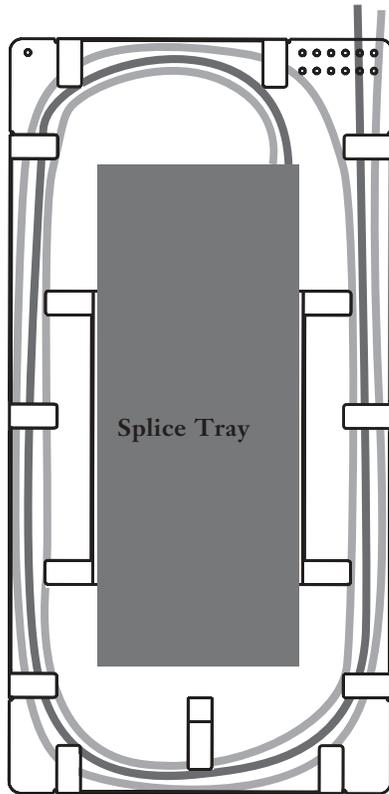

Figure 18
9.1 Splice cassettes included with the unit will accommodate standard splice trays (sold separately). Route fibers around cassette as shown in Figure 18 and splice fibers as described in the splice tray instructions.